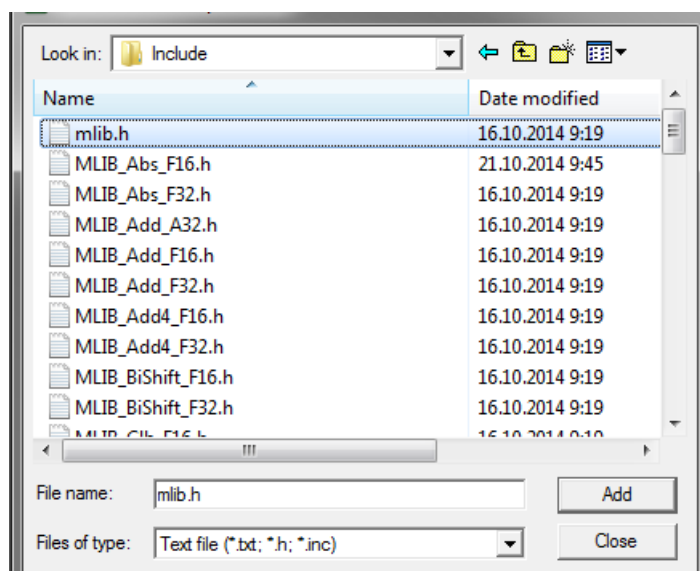

Figure 1-33. Adding .h files dialog
4. Navigate into the library installation folder C:\NXP\RTCESL\CM0_RTCESL_4.5_KEIL\MLIB\Include, and select the *mlib.h* file. If the file does not appear, set the Files of type filter to Text file. Click Add. See Figure 1-33.